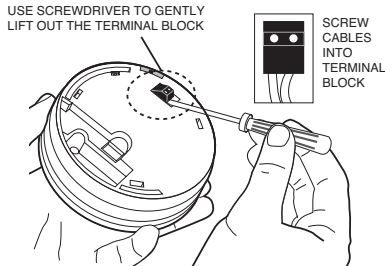

Figure 10b
4. Using a small screwdriver, lift off the terminal block by raising it vertically (see figure 10b).
5. Screw the two cable cores into the terminal block (see figure 10b). Then carefully press the terminal block back on to the two pins in the base.